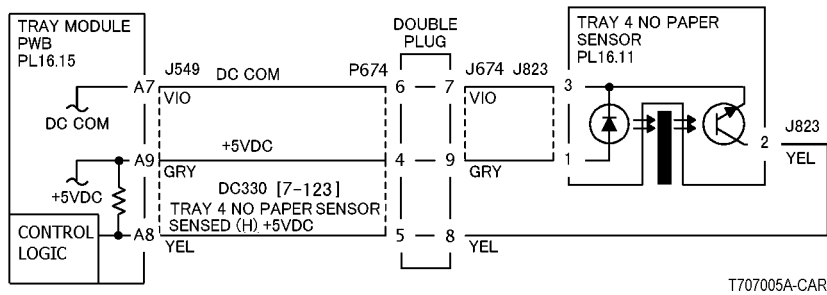

Figure 1 3.953 RAP Circuit Diagram - Tray 4 No Paper Sensor (TTM)
- Ensure that the connectors shown in the circuit diagram (Figure 1 - TTM or Figure 2 - 3TM) are securely connected and that the wires are not damaged.